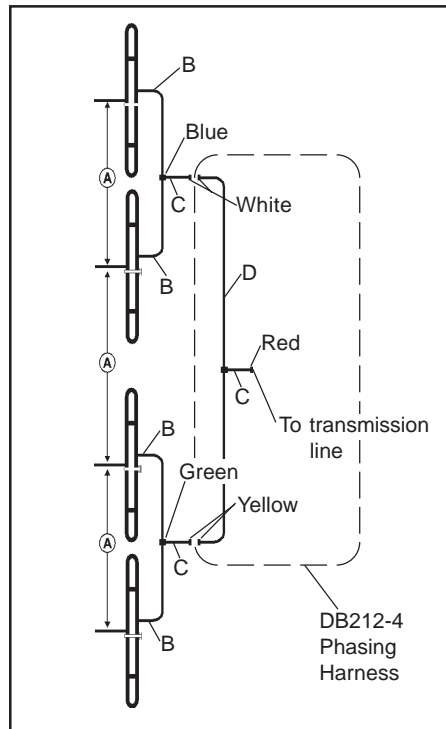

Figure 9 - DB212-4
**Installing the DB212-4 (refer to Figure 9):**
5. Connect the antenna feed cable (see Figure 9) from Dipole 2 to the "Tee" connection on the phasing harness attached to Dipole 1. Make the connections snug but do not apply heavy force with pliers.
8. Using the DB212-4 phasing harness, connect the two completed DB212-2 units together (see Figure 9). Be sure to match the color codes. Make all connections snug but do not apply heavy force with pliers. This should leave the phasing harness transformer (color coded red) open for connection to the station transmission line.